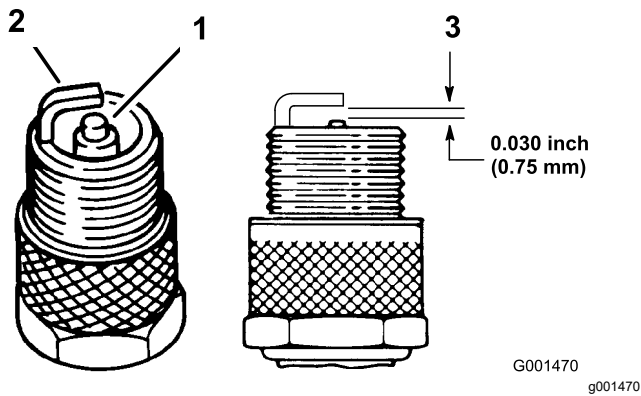

Figure 26
- Look at the center of the spark plugs (Figure 26). If you see light brown or gray on the insulator, the engine is operating properly. A black coating on the insulator usually means that the air cleaner is dirty.
2. Check the gap between the center and side electrodes (Figure 26). Bend the side electrode if the gap is not correct.